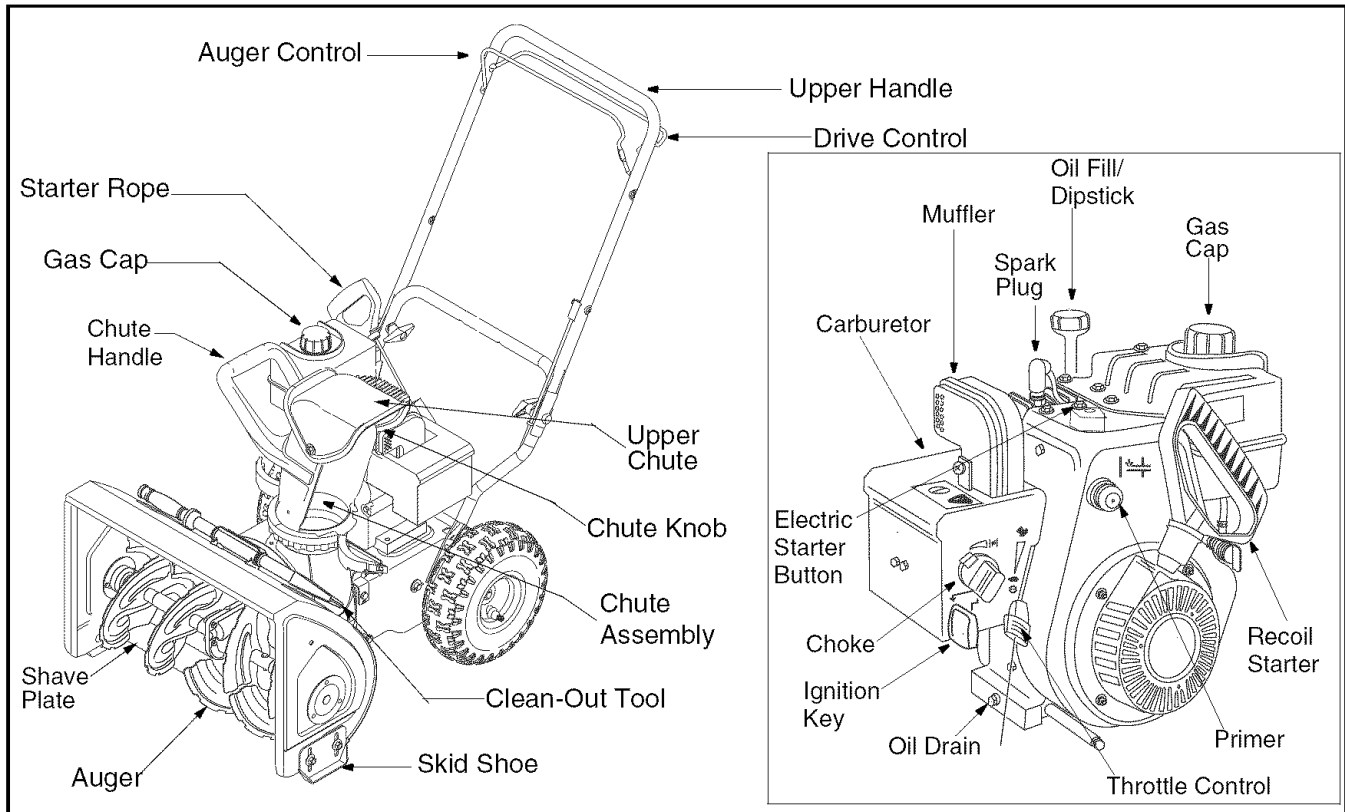

Figure 6
The space between the shave plate and the ground can be adjusted. Refer to Figure 6 for location of shave plate and skid shoes.
(See Figure 6)
1. Remove the dipstick from the oil fill. For location of the oil fill, see Figure 6.
- For location of engine controls, see Figure 6 .